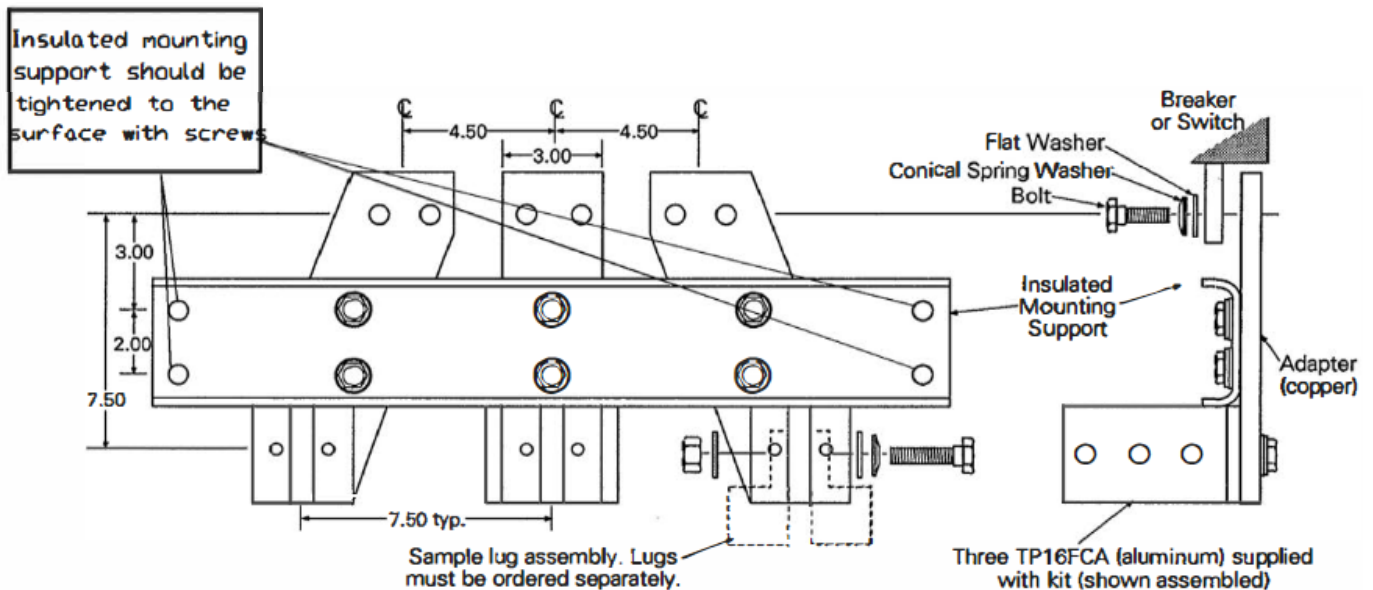

Figure 8. Typical assembly of lug adapters, catalog number TPLUGA16, to 1600 A frame breaker or switch.
- Figure 8 for TPLUGA16 to a 1600 A frame breaker or switch.